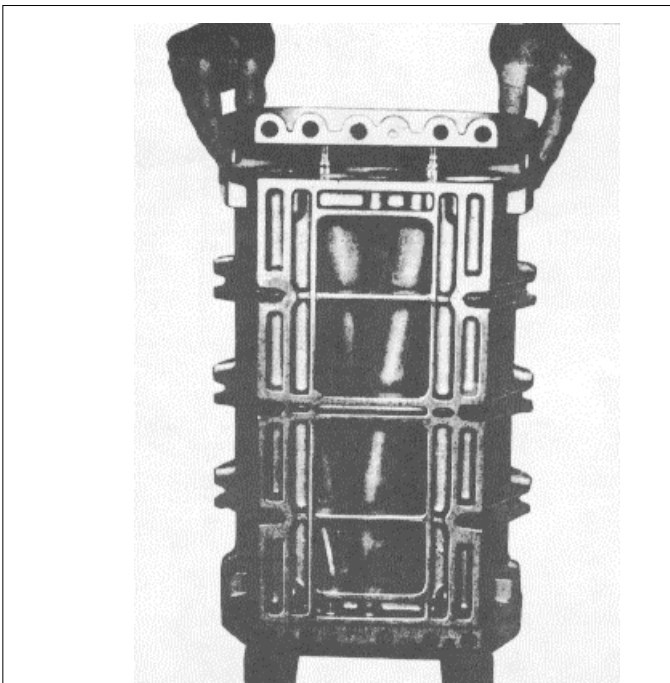

Fig. 13
- (f) Lower the end plate straight over the rotor shafts until the dowel pins in the end plate contact the blower housing (Fig.13). Then carefully work the dowel pins into the dowel pin holes in the housing and the oil seal rings into the collars. Push the end plate tight against the housing. If necessary, tap the end plate lightly with a plastic hammer.
- (4) Check the relationship of the blower end plates to the housing at the cylinder block side of the blower assembly. The protrusion of the housing with respect to the end plates should not be more than .0005" above to .0065" below the end plate. Excessive protrusion could distort the housing when the end plate to cylinder block bolts are tightened and cause rotor to housing interference.